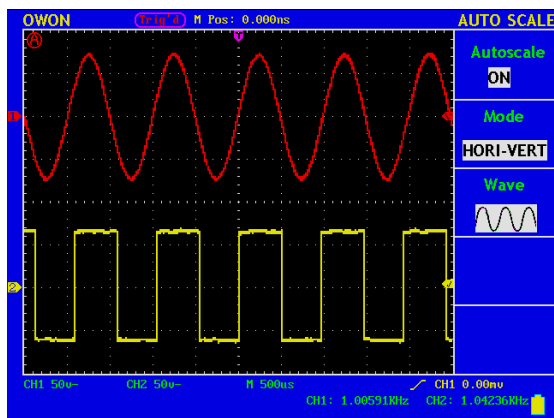

Fig.5-51: Multi cycles mode
4. Press **F3** to choose  and press F3 to change to . See Fig. 5-51/52 for details.